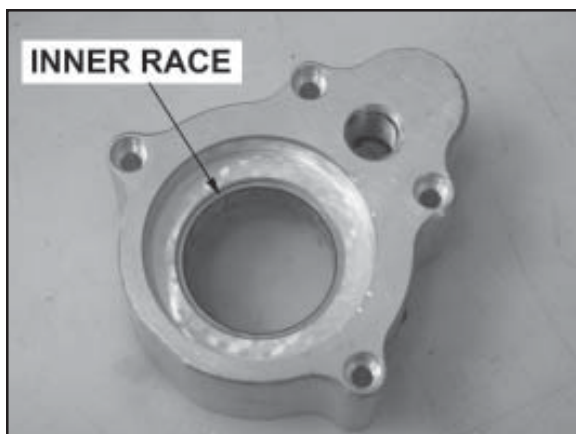
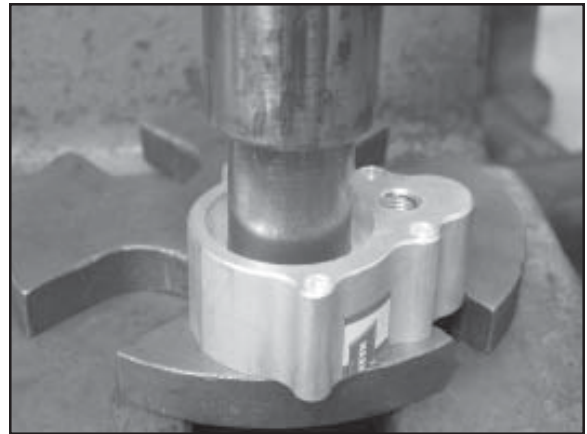

Figure 8
Figure 9
2. CAREFULLY press the bearings out of each housing using a socket with an outside diameter the same size as the inner race ring of the bearing, **Figure 8** and **Figure 9**.